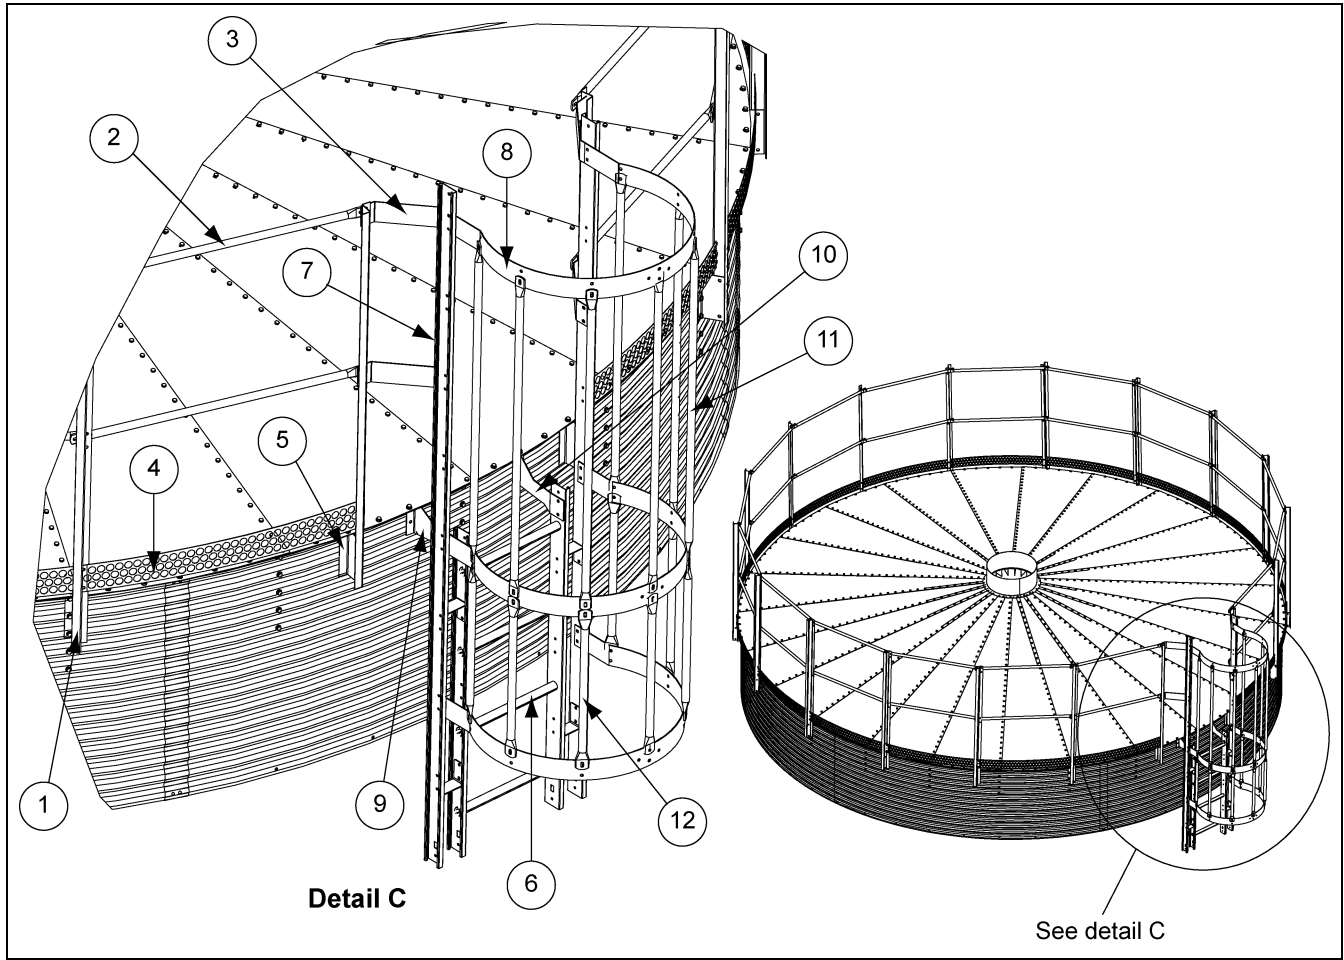
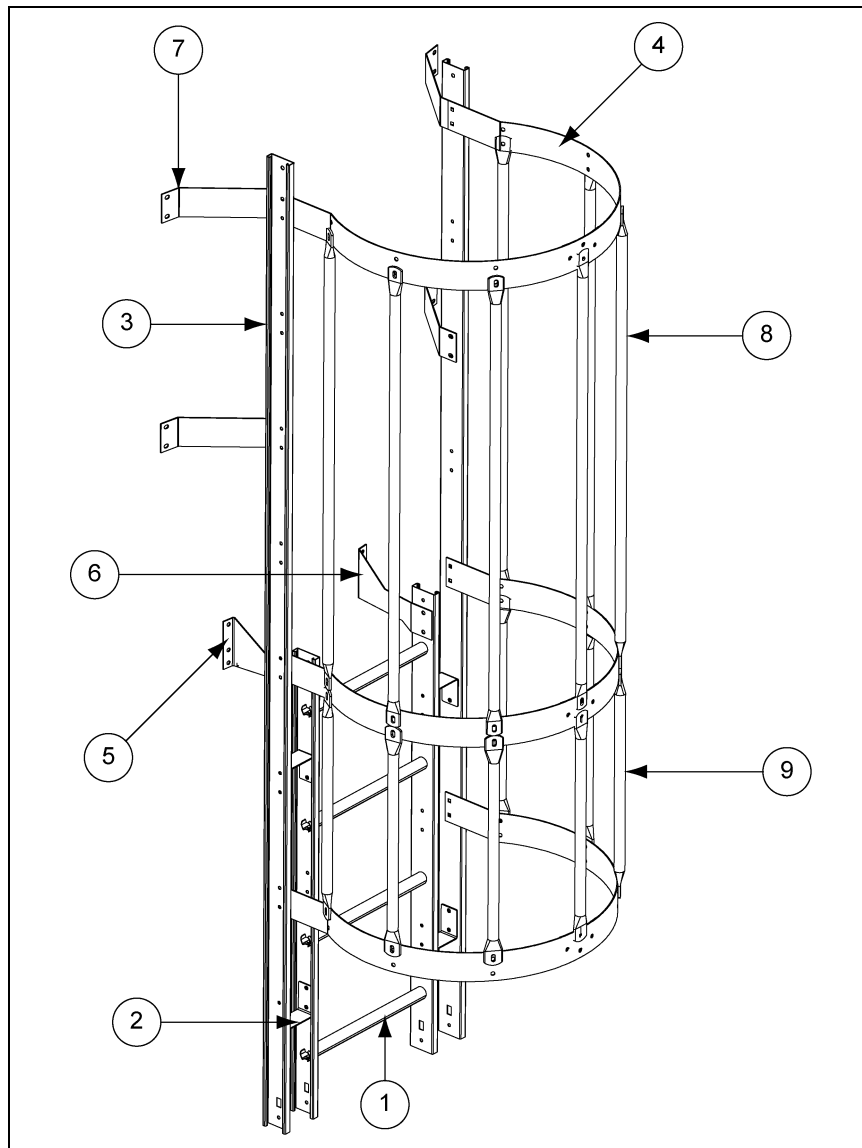

Figure 5
Figure 6
5. Assemble guardrail posts to guardrail brackets. Refer to guardrail and safety cage assembly diagram in Figure 5 on Page 6 and Figure 6 on Page 7 for details.